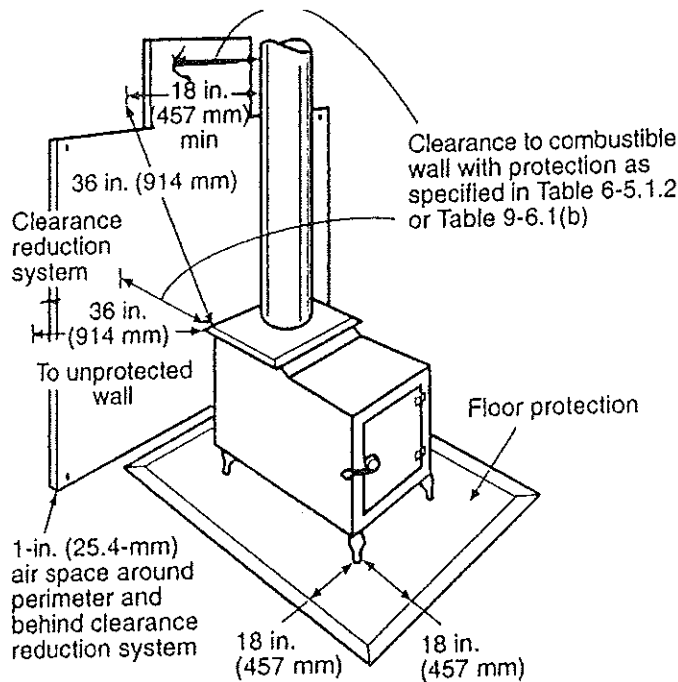

Figure 9 Floor Protection
- In lieu of the requirements for floor protection specified herein, a floor protector listed by a recognized testing laboratory and installed in accordance with the installation instructions shall be permitted to be employed. (NFPA 211 9-5.1.1.3) (Figure 9)